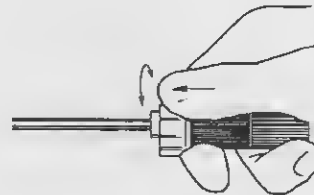

Figure 2-17. Cutter window position control.
j. Push the window positioning collar (fig 2-17) forward to unlock it from the handpiece and then turn the collar in either direction to the desired position.